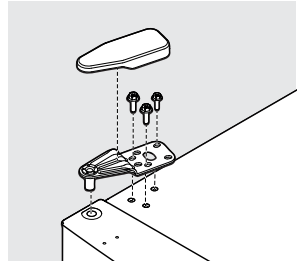

Figure 9
13. Attach the top hinge using a Phillips screwdriver or 5/16" wrench, and then place the top hinge cover (some models) on the unit (see Figure 9).